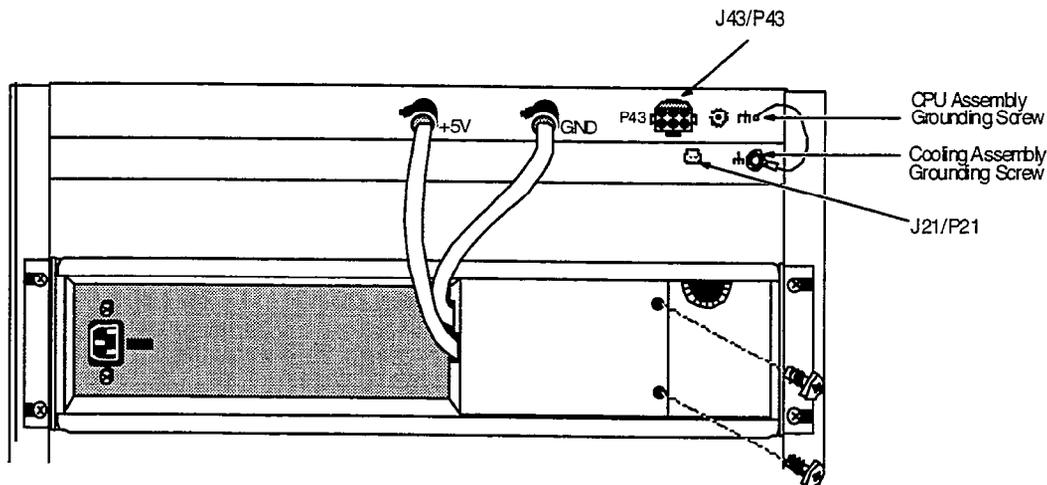

Figure 1 VoiceMemo System Ground location
2. For non-central office applications, connect a single strand of 12 gauge wire from the X₀ ground point to the cooling assembly grounding screw. (Note: The connector must be crimped, not soldered.) See figure 1 for details.